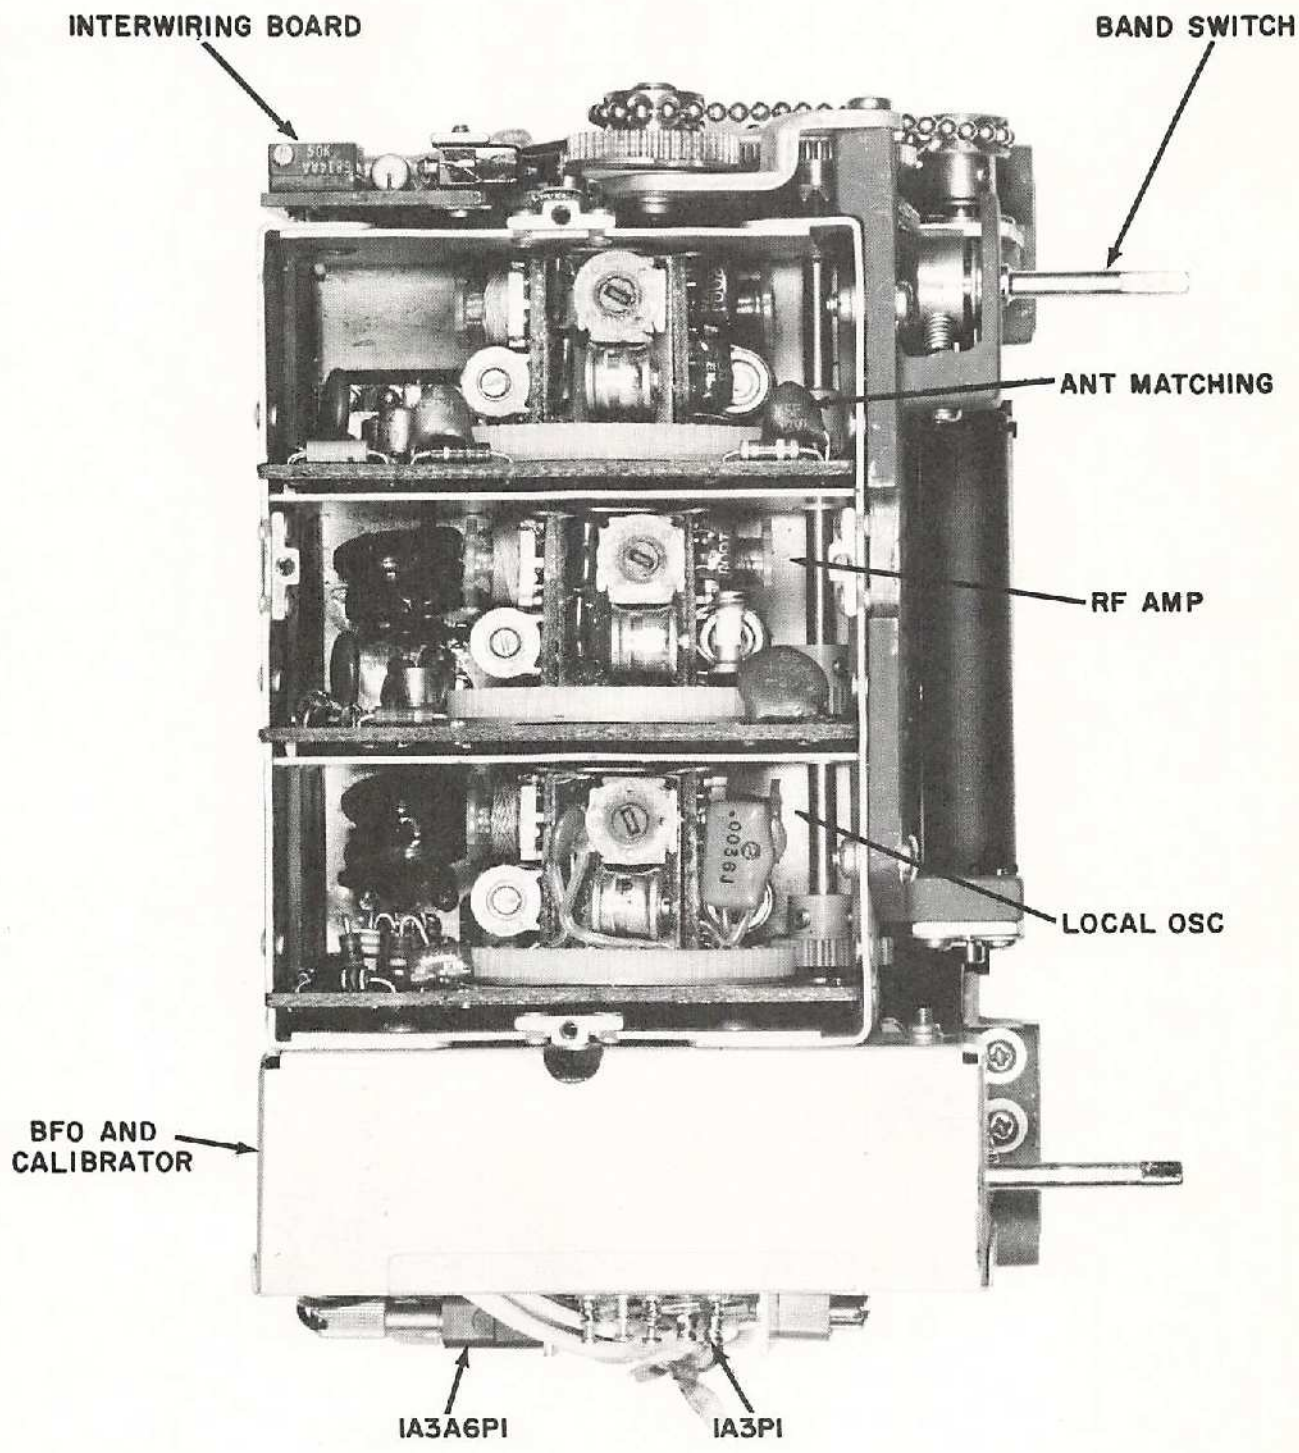

Figure 5-10. RR-224 Tuner
- (1) Line up the mark on the gear face with the mark on the circuit board (figure 5-10), being sure that the wheel has detented properly.
- (2) Rotate the gear one tooth away from the mark toward the notched side of the board. When the board is inserted, the meshing of the wheel and drive gear will cause an approximate one-tooth rotation of the wheel in a direction away from the front of the receiver.
- (3) Having made sure the board is plugging into the proper location, hold the wheel in the correct position (paragraph 5.8c(1)) and gently push the board into place.
- (4) Check that the marks on the wheel and board line up correctly. If they do not, extract the card and repeat the above steps.
5.11 Receiver Tuning Capacitor Removal and Replacement (See figure 5-10)